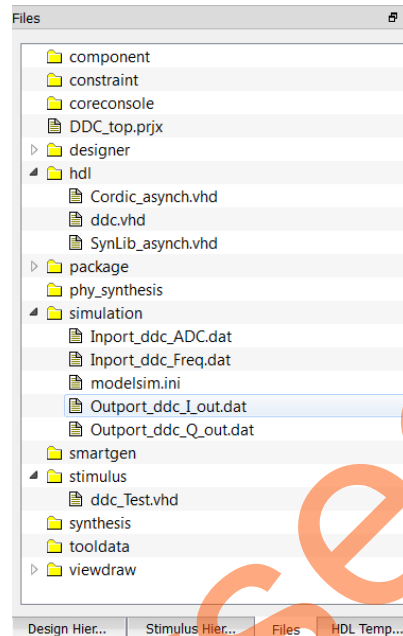
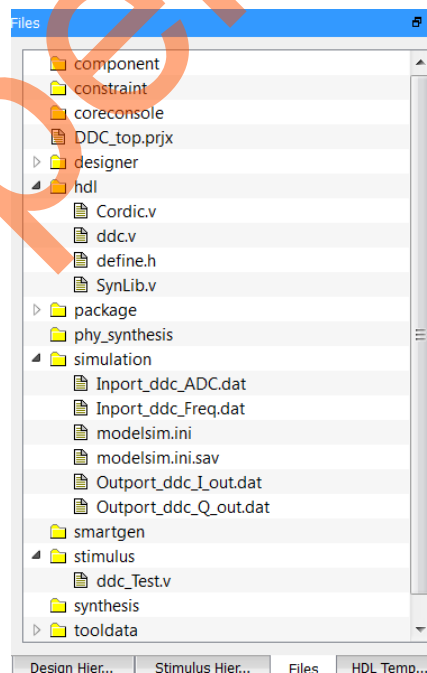

Figure 18. Imported VHDL Source Files into Libero SoC
Figure 19. Imported Verilog Source Files into Libero SoC
3. In the **File** menu in Libero SoC, select **Import Files**. For **Files of type**, select **Simulation files (*.mem, *.bfm, *.dat, *.txt, *.do)** and import all the `*.dat` files. The required files are copied into the respective folders, as shown in Figure 18. The Verilog files are copied into the respective folders, as shown in Figure 19.